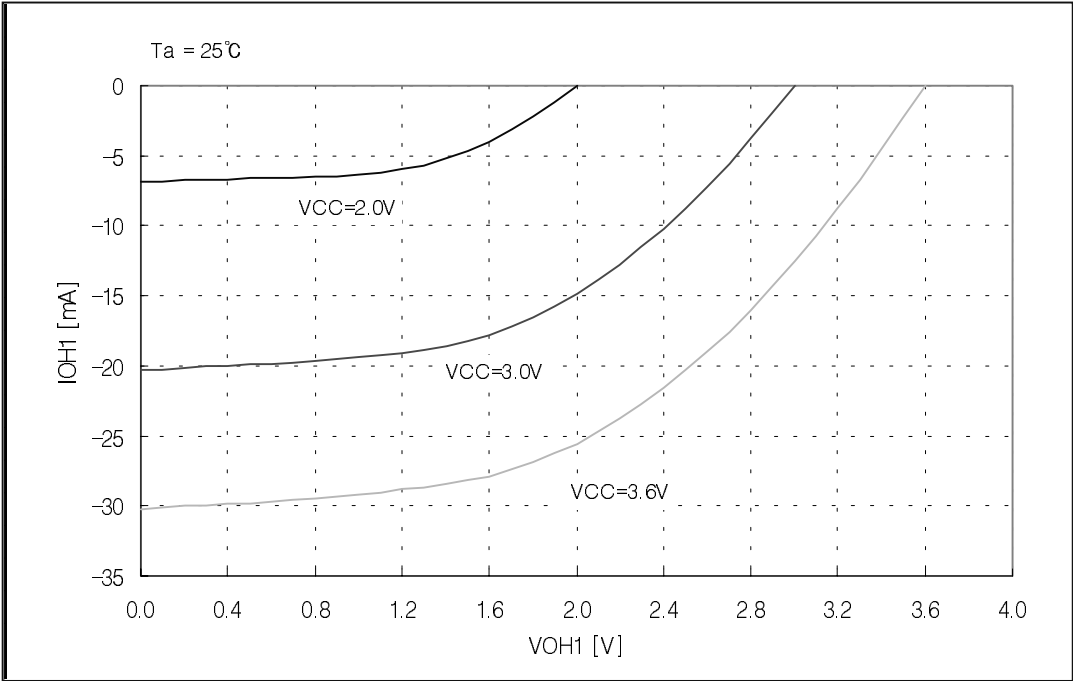

Fig 2-7. I_{OH1} vs V_{OH1} Graph (REMOUT Port)
*3 Refer to < Fig.2-7 I_{OH1} vs. V_{OH1} Graph >